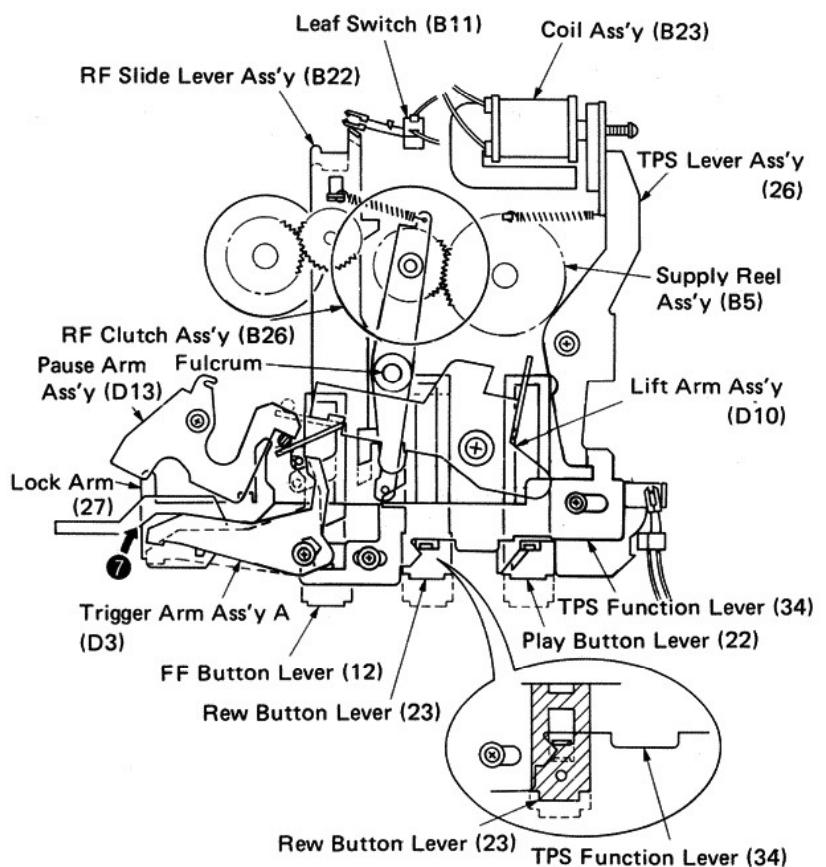

Fig. 28
- Status Change into REW TPS Mode: (Fig. 28)
- 2 When the leaf switch (B11) is turned on, the tape output is muted. Since a current flows in the coil assembly (B23), the TPS lever assembly (26) and the TPS function lever (34) are held. Consequently the rewind button lever (23) maintains the pressed condition.
- 4 The gear of the RF clutch assembly (B26) meshes with that of the rewind button lever (23) and the mechanism assumes the REW TPS mode. (Fig. 28)